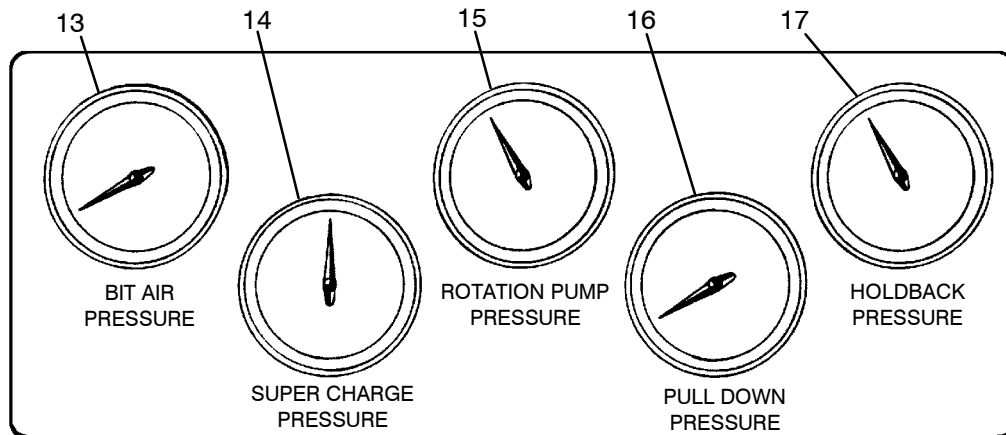

Figure 4.1–4
(13) Gauge - Bit Air Pressure
The (Drilling) Bit Air Pressure Gauge (figure 4.1–4) monitors the air pressure available for drilling. This pressure is adjusted by turning the Air Pressure Regulator (figure 4.1–6, item 50) adjustment knob clockwise to increase and counterclockwise to decrease the compressor discharge air pressure.
The Supercharge Pressure Gauge (figure 4.1–4) monitors the main pump supercharge pressure. It shows the operator how much pressure is being delivered to the main pump inlet.